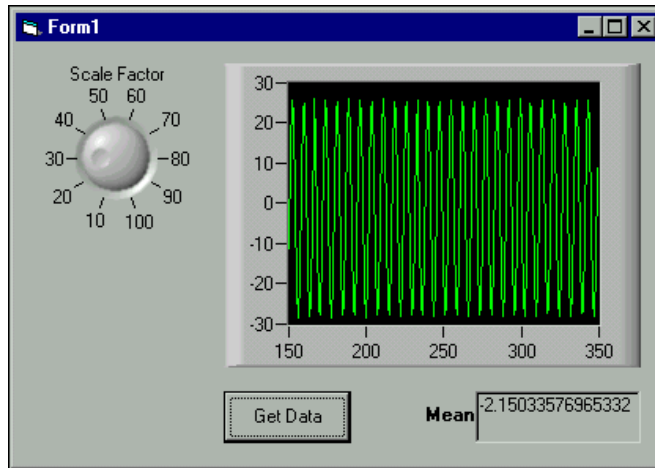

Figure 3-7. Continuously Acquire and Chart Data
3. Test the program. Run the program and click the **Get Data** button. Figure 3-7 shows the program during runtime. Notice that data is continuously acquired and displayed on the graph like a strip chart. Try changing the scale factor, and notice how the graph and mean respond to scaling. Stop the program when you finish testing.